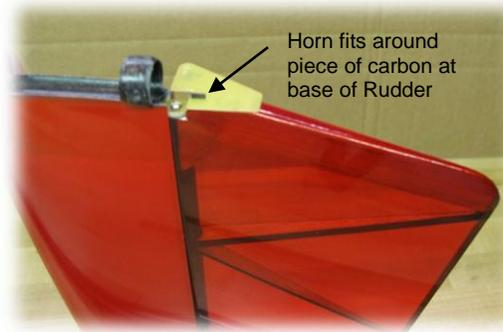

Figure 13: CA the Rudder horn in place on the base of the Rudder
1. Attach the Rudder horn onto the base of the Rudder using medium thick CA glue as shown in figure 13.